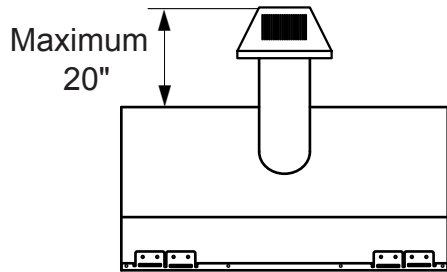

Figure 11 - Rear Vent Application, Maximum Horizontal Distance
The maximum horizontal distance between the rear of the appliance and the outside of termination is 20" (508 mm). See Figure 11.
1. Locate and cut the vent opening in the wall. For combustible walls first frame in opening. See Figure 11.
3. Attach vent pipe assembly to the fireplace. Set fireplace in front of its permanent location to insure minimum clearances. Mark the wall for a 10½"H x 10½"W (241mm x 241mm) square hole (for noncombustible material such as masonry block or concrete, a 8½" [216mm] diameter hole is acceptable). See Figure 11. The center of the hole should line up with the center line of the horizontal rigid vent pipe end. Be sure to allow for minimum rise. Cut a 10-1/2"x10-1/2" (267mm X 267mm) square hole through combustible exterior wall (8½" [216mm] diameter hole if noncombustible). Frame as necessary. Allow ¼" minimum rise per foot. See Figure 12.